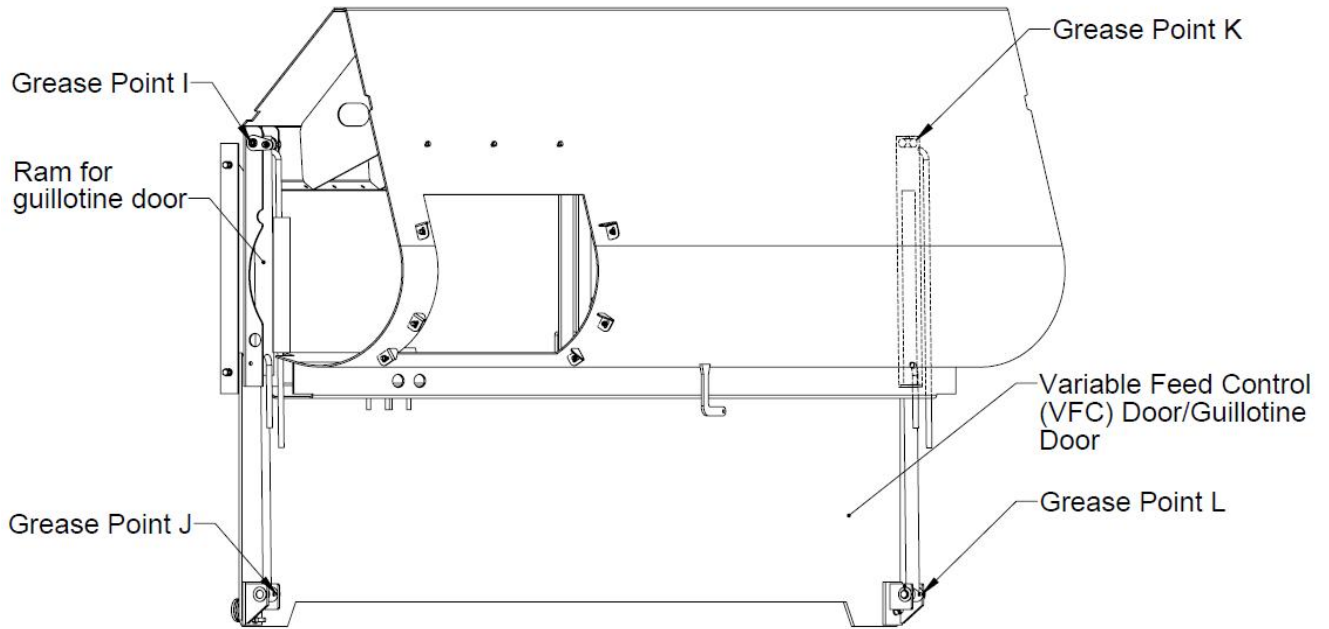

Figure 14: VFC Door grease points
- a. 2 pins & 2 bushes on the guillotine door lifting rams (I, J, K & L, figure 14)